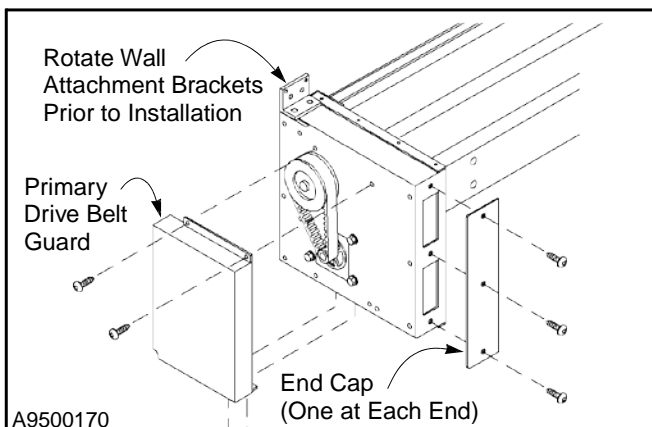

Figure 20
1. Using a forklift, carefully lift and remove the head assembly from the shipping crate. (See Figure 20.)
2. Before lifting the head assembly into position, remove the two end caps and the primary drive belt guard. Retain all fasteners. Then remove, rotate, and re-attach the wall attachment bracket at each end of the head assembly. (See Figure 20.)